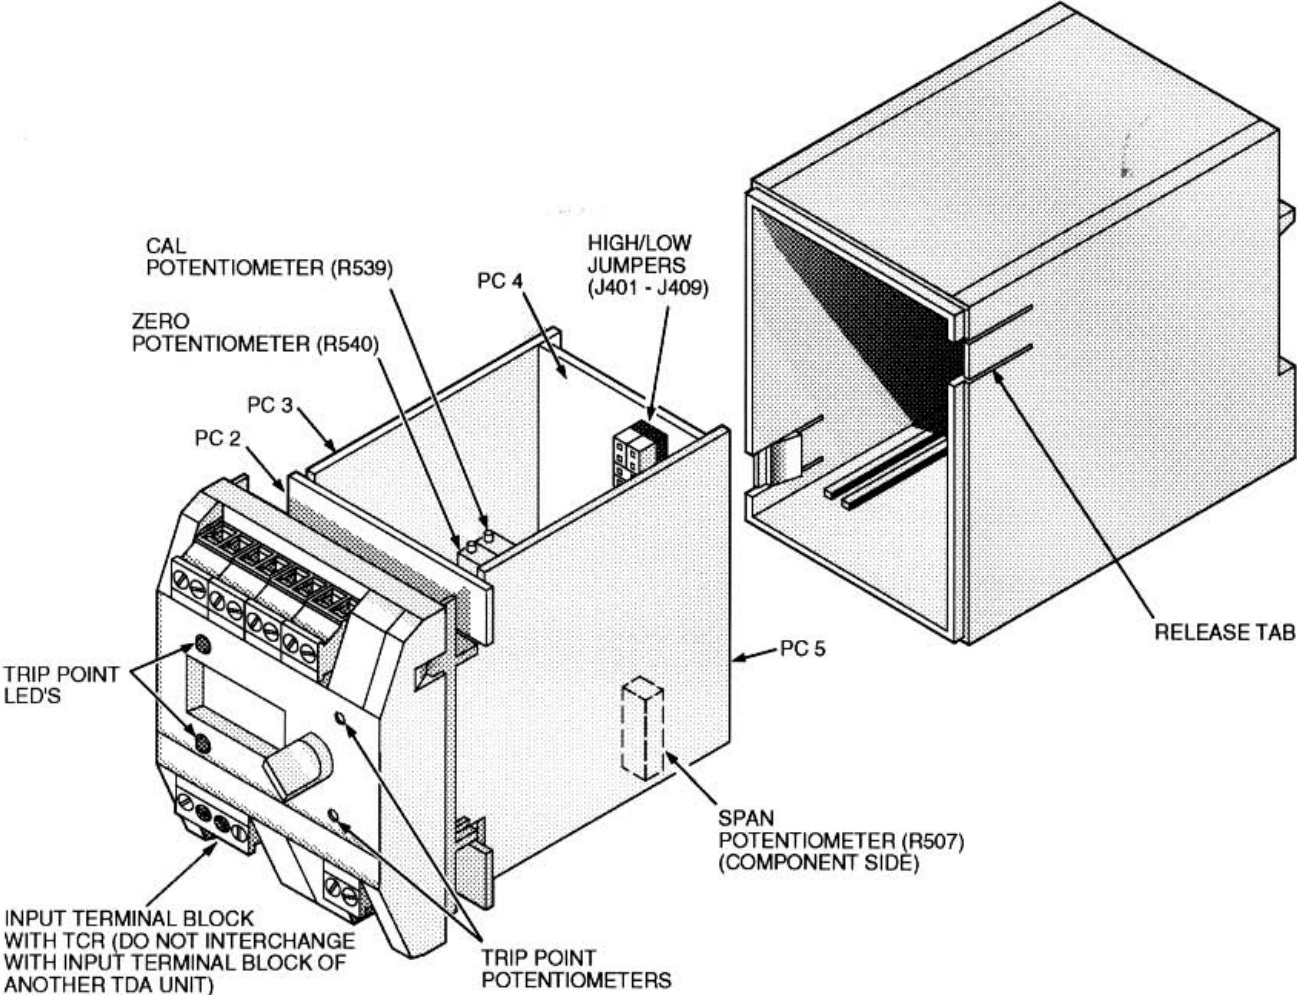

Figure 2. Disassembly Diagram
To adjust these potentiometers, partial disassembly of the unit is required. To access the potentiometers, use a screwdriver to release the tabs on both sides of the unit and pull the front panel straight out. Attached to the inside of the front panel are five printed circuit (PC) boards. The Zero and Span potentiometers are located on PC5, one of the side PC boards. See figure 2.
Deadband. For units with the -AD (adjustable deadband) option, adjustment potentiometers are provided inside the unit. R424 is for single alarm units, and R424 and R425 are for dual alarm units. To adjust these potentiometers, partial disassembly of the unit is required. To access the potentiometers, use a screwdriver to release the tabs on both sides of the unit and pull the front panel straight out. Attached to the inside of the front panel are five PC boards. The deadband potentiometers are located on PC4, the rear printed circuit board. See figures 2 and 3.
Solderless jumpers are used to set high or low alarms and upscale or downscale open input drive. To verify or change jumper settings in the field, partial disassembly of the unit is required. To access the jumpers, use a screwdriver to release the tabs on the sides of the housing and slide the front panel out. Attached to the inside of the front panel are five PC boards. The alarm status jumpers are located on the rear printed circuit board, PC4, and the upscale/downscale drive jumpers are located adjacent to the Span potentiometer on PC5. See figures 2 and 3 and refer to table 2.
To calibrate a TDA, the unit must be partially disassembled. Refer to the Adjustments paragraph and see figures 2 and 3.
6. If the display does not read 00.0 percent, adjust the Zero potentiometer (R540) located on PC5 for 00.0 percent. See figure 2.
9. If the display does not read 100.0 percent, adjust the Span potentiometer (R507) located on PC5 for 100.0 percent. See figure 2.